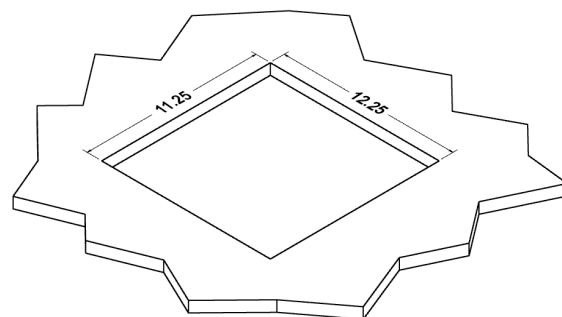

Figure 1 - Cutout Dimensions
Step 1 - Cut a 11.25" x 12.25" opening in the "hard lid" ceiling or wall (special cutting tools may be required – ref. *Figure 1*).